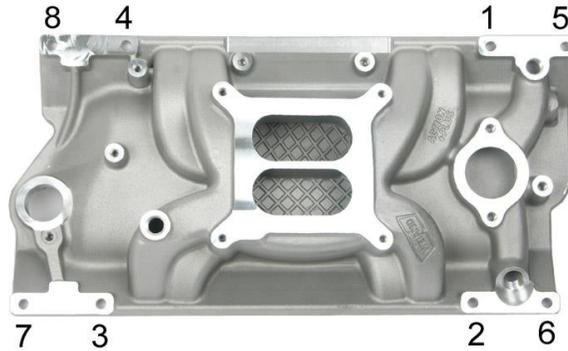

Figure 1
5. Carefully, lay your WEIAND® intake manifold in place. If the manifold must be moved, the RTV-silicone may need to be cleaned and re-applied. For the intake manifold bolts, apply a drop of motor oil to the bolt threads. Install the intake bolts initially torquing to 5 ft./lbs., then 10 ft./lbs., following the factory GM sequence (see Fig. 1), and finally torque to 15-18 ft./lbs.